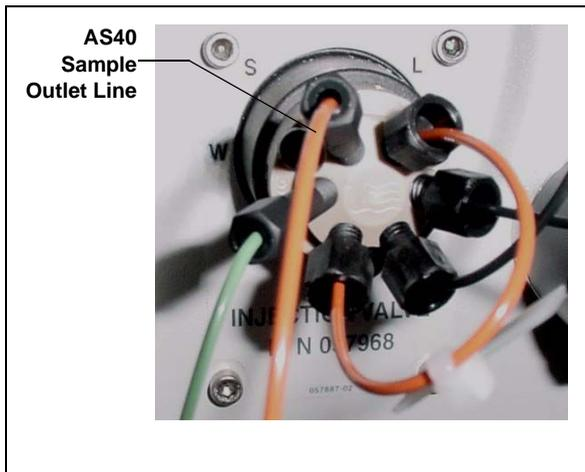

Figure B-43. ICS-1500 Injection Valve
3. Connect the outlet line from the AS40 to port **S (5)** of the injection valve (see Figure B-43).